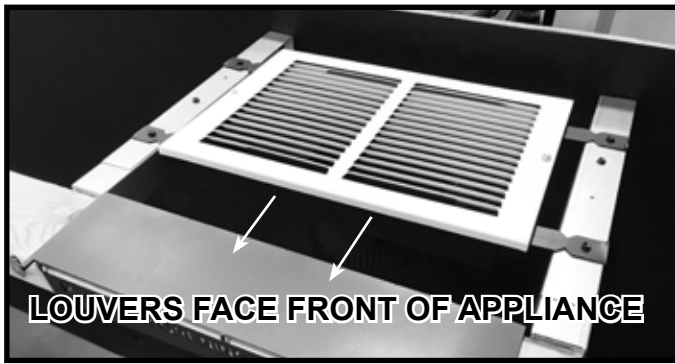

Figure 8.17 Register Louvers Facing Front of Appliance
12. Both discharge assemblies must be mounted so the louvers face the front of the appliance. For See-Through appliances, both assemblies must face the same direction. See Figure 8.17 and refer to Figure 4.3.